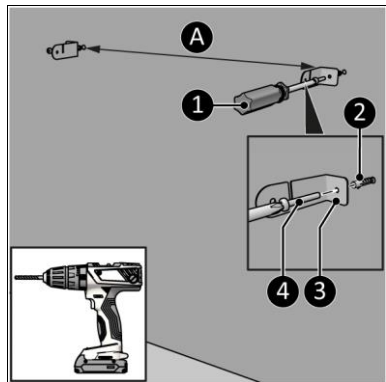
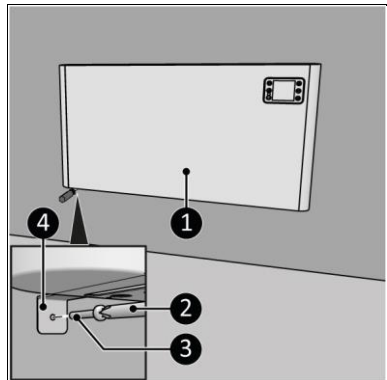

Figure 10
Figure 13
4. Drill two holes at least 610 mm above the floor and with a distance of (Figure 10, pos. A):
5. Place wall plugs (Figure 10, pos. 2).
6. Screw and tighten a left and a right bracket (Figure 10, pos. 3) to the wall with a large screw (Figure 10, pos. 4) using a Phillips screwdriver (Figure 10, pos. 1).
15. Screw and tighten the device brackets (Figure 13, pos. 4) with a large screw (Figure 13, pos. 2) to the wall (Figure 10, pos. 3) using a Phillips screwdriver (Figure 13, pos. 2).